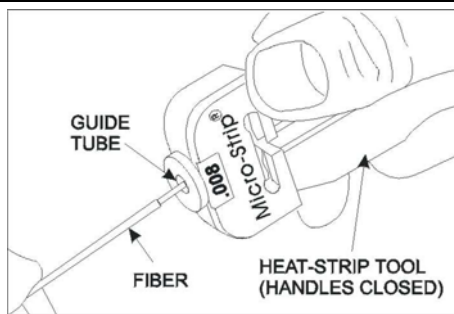

Figure 4. Heat-Strip Tool - Removing Coating from Coated Fiber
4. **REMOVE FIBER COATING** With the stripper handles open and the buffered tube aligned with the end of the fiber, insert both fiber and buffer tubing through the guide tube opening enough to allow about 0.75 inch (19.0 mm) of buffer and fiber coating to be removed (Figure 4).